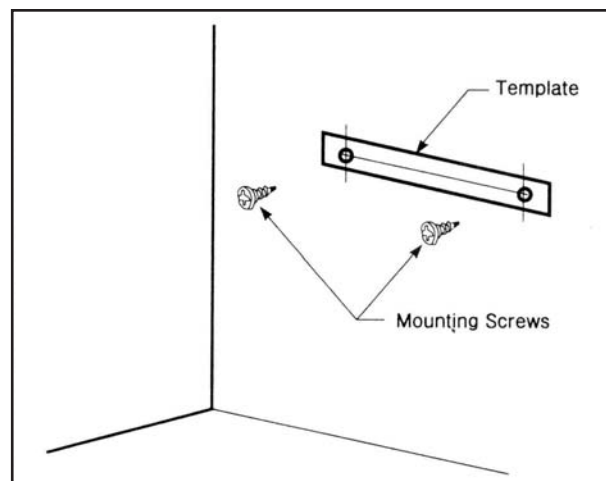

Fig. 3 Use paper template supplied to mark location of mounting holes. Be sure template is level.
1. Install mounting screws on wall as shown in Figure 3. Use enclosed paper template for proper location of holes. Be sure template is level. It may be necessary to use plastic or lead anchors for plaster walls.